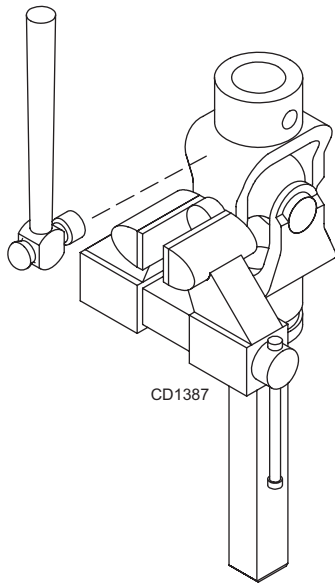

Figure 28
3. Clamp cup in vise as shown in Figure 28 and tap on yoke to completely remove cup from yoke. Repeat Step 2 and Step 3 for opposite cup.